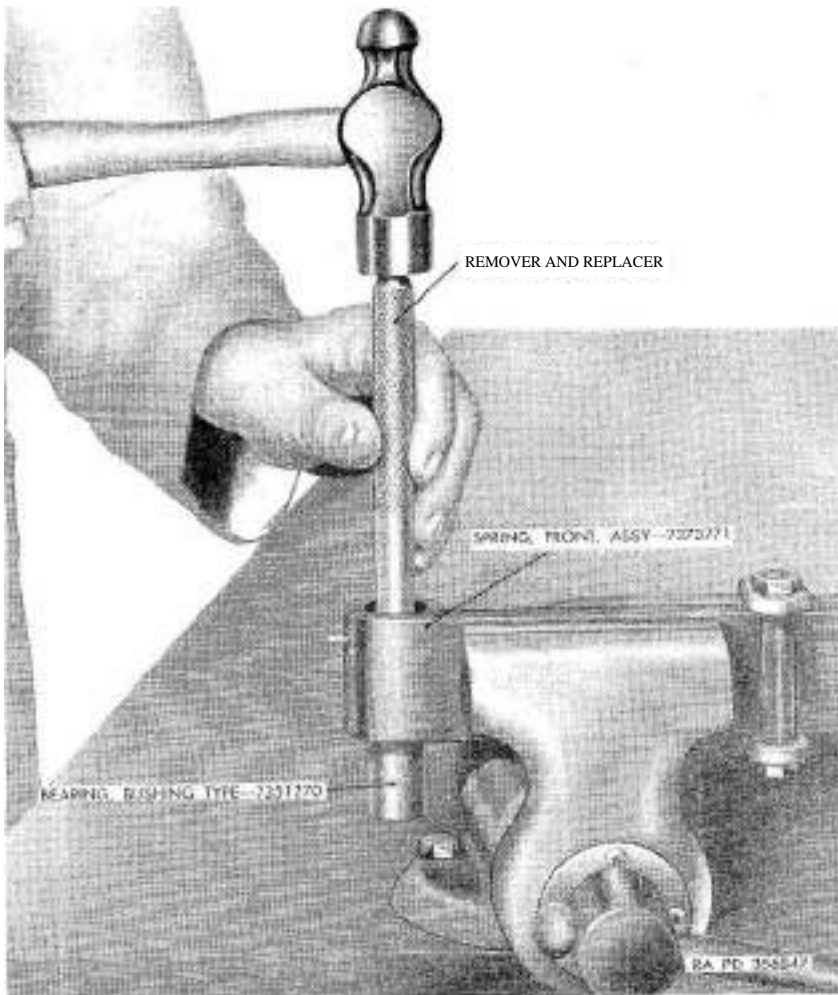

Figure 174. Removing hushing-type hearing from spring with a bushing 'remover and replacer.
Place spring leaf in a vise and remove bushing-type bearings with a remover and replacer (*fig. 174*).
- (1) If inspection (par. 197a) reveals that replacement of the bushing-type bearings (A and E) is necessary, place No. 1 spring leaf (F) in a vise and install new bearings with a remover and replacer (*fig. 174*).
- (2) Ream bearings so that spring bolts are a free fit in bearings, with minimum clearance.